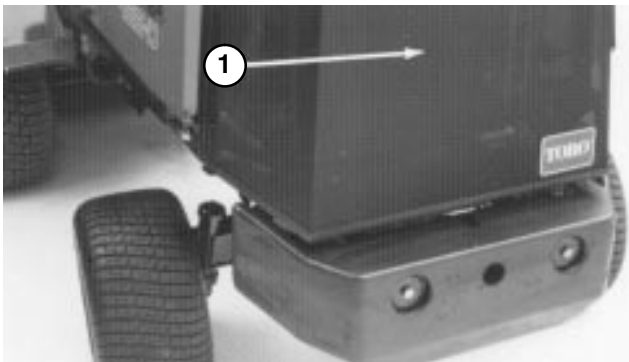

Figure 31
ENGINE COOLING SYSTEM (Fig. 31–32)
- B. Unscrew knobs and remove rear screen (Fig. 31). Clean screen thoroughly.